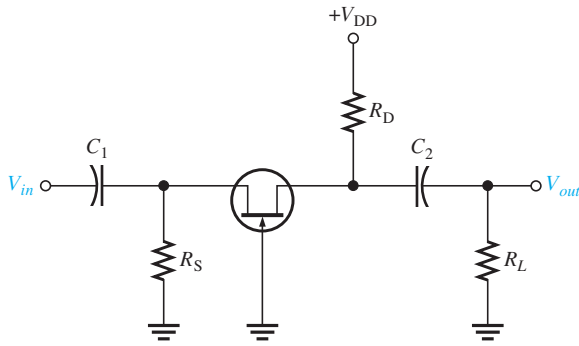

FIGURE 4-50 JFET common-gate amplifier.
As mentioned in the section introduction, the **common-gate (CG)** amplifier has limited use by itself, but it is used in the second stage of a FET differential amplifier (discussed in Chapter 6). It also has application at high frequencies. Although it has a voltage gain comparable to the CD amplifier, the input resistance is low, cancelling one of the major advantages of FETs. A basic CG amplifier is shown in Figure 4-50. The input signal is applied to the source terminal through C_1 and taken from the drain terminal through C_2 . The voltage gain is the same as that of a CS amplifier but with no phase inversion.